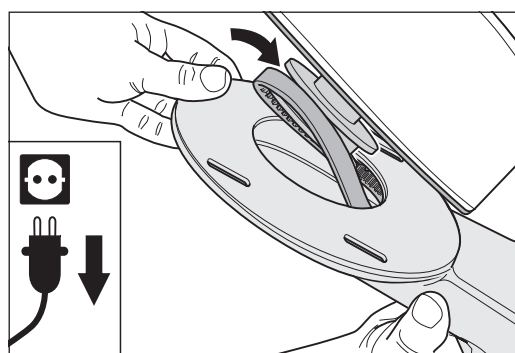

Fig. 73 Pull the V-belt slightly of the attachment and place it in the motor belt pulley.
- 12 On the motor side, pull the V-belt slightly out of the attachment and then place it in the motor belt pulley (fig. 73).